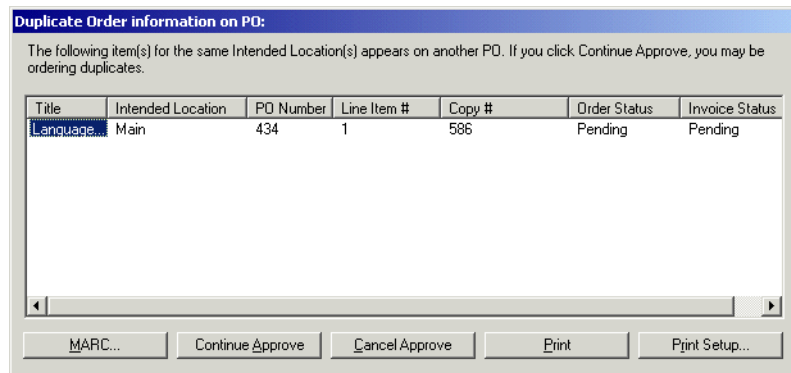

Figure 6-65. Duplicate Order Information on PO dialog box
4. Click the **Check for Duplicates** check box if you want the system to check for duplicate titles for the same location when a purchase order is approved. The system checks duplicate line items based on the Order Location and the Bibliographic ID. If any orders match these two criteria, the **Duplicate Order Information on PO** dialog box opens (see Figure 6-65).
The **Duplicate Order Information on PO** dialog box (Figure 6-65) opens when you approve a purchase order that contains titles that are on more than one purchase order for the same location, or duplicate purchase order numbers. (Providing that you checked the **Check for Duplicates** check box of the Approve Options section when approving a PO.)